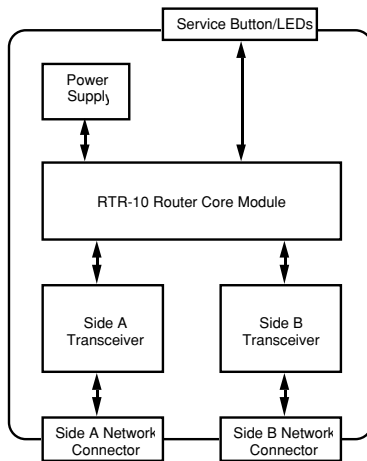

Figure 1.2 Router Assembly Using the Router Core Module
- *Integration.* Router components are available for embedding in OEM products. An RTR-10 router and two transceiver modules, one to handle each of two channels connected by the router, may be mounted on a motherboard, along with a power supply and two network connectors. This sub-assembly constitutes a custom router. It can be packaged in an enclosure to meet unique form factor and environmental requirements. Depending on the application, the package may contain a single router sub-assembly, or may include other application-specific hardware. See figure 1.2 for a block diagram of a router based on the RTR-10 router. Multiple routers may be packaged together for some applications, e.g., a backbone connecting multiple channels.